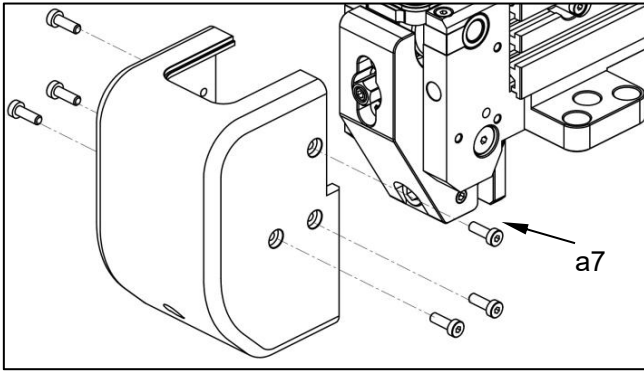

Fig. 34
4. As shown in Fig. 34, remove the six M4 screws on both sides of the housing and take off the housing cover.